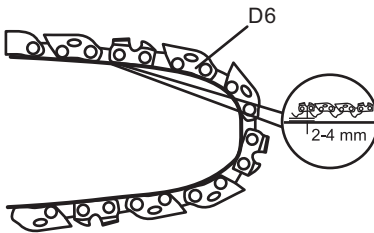

Fig. 7b
3. Check the chain tension using one hand to lift the saw chain (D6) against the weight of the product. The correct chain tension is achieved when the saw chain can be lifted by approx. 2-4mm from the guide bar (D7) in the centre. (See Fig. 7b, 7c)